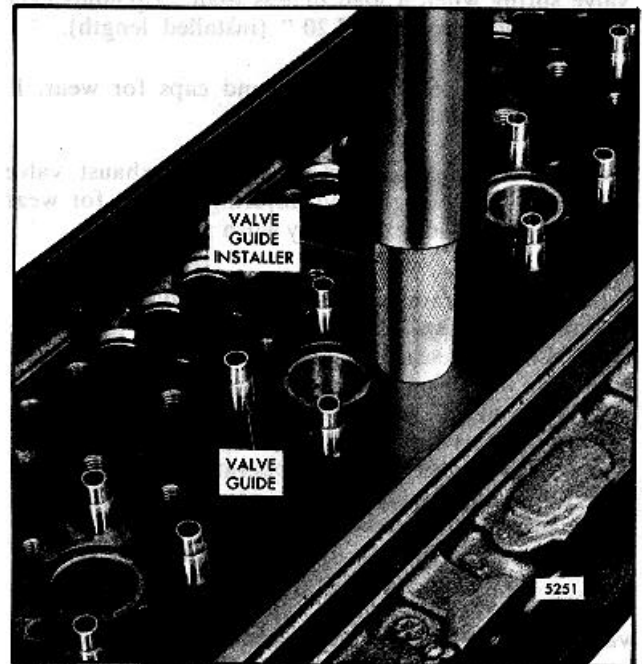

Fig. 8. Installing Valve Guide
2. Position the valve guide squarely in the bore in the cylinder head and press the installing tool gently to start the guide in place (Fig. 8). Then press the guide in until the tool contacts the cylinder head.